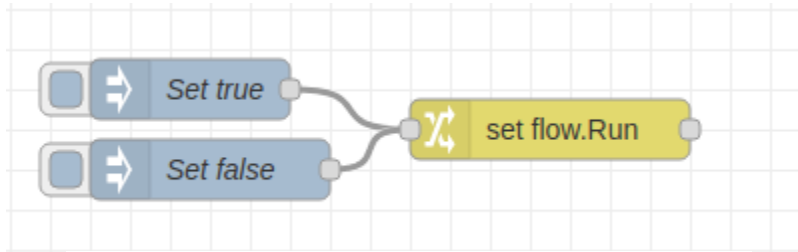

Figure 5-51: Defining and Controlling Context Data
- Click the “Set true” Inject node in Figure 5-51.
What do you suppose is the message that appears at the output port of “set flow.Run” node in Figure 5-51? Connect a debug node to the output port and find out. Like this: